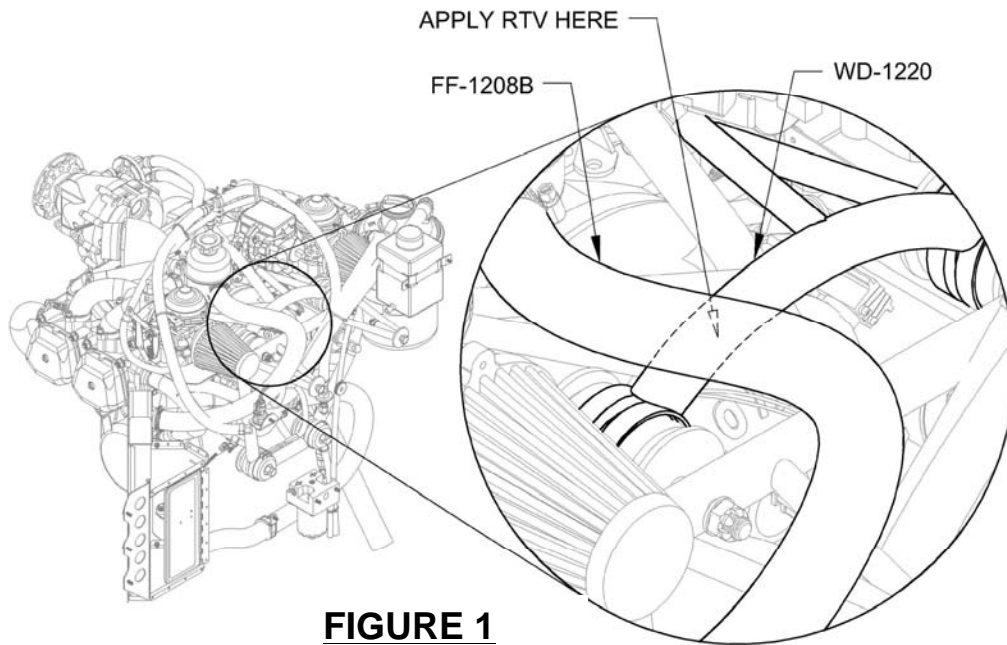

FIGURE 1
Step 2: Inspect the FF-1208B Output Radiator Hose where it contacts the WD-1220 Engine Mount Ring as shown in Figure 1.